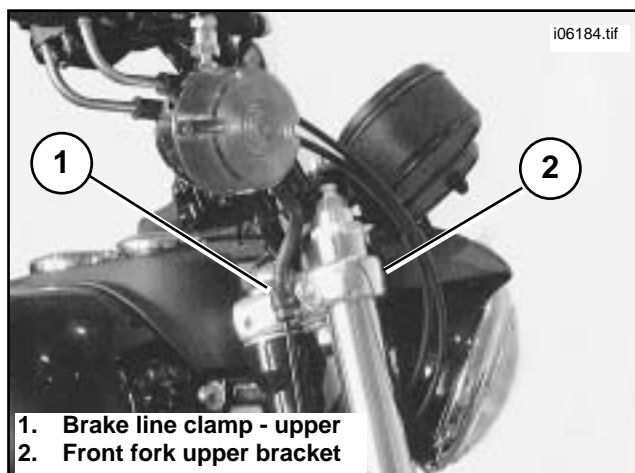

Figure 1. Upper brake cable clamp
4. See Figure 1. Remove screw, lockwasher, and clamp (1) which secure front brake line to right rear side of front fork upper bracket (2) (upper triple clamp). Save all components for reinstallation.
5. See Figure 1. Secure front brake line to right rear side of front fork upper bracket (2) using original screw, lockwasher, and clamp (1) (previously removed in Step 4 of REMOVAL AND DISASSEMBLY - FRONT BRAKE SYSTEM).